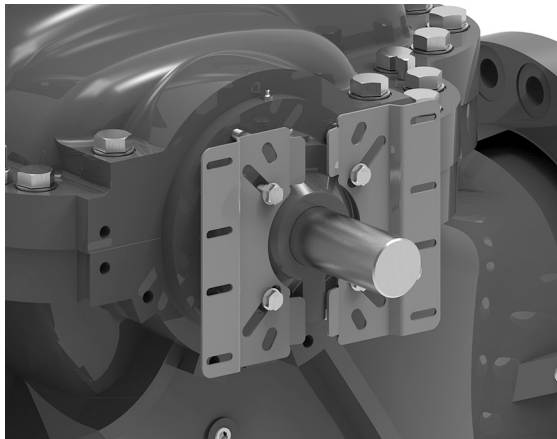

Figure 62: Large bracket mounted to pump bearing gland (without guard assembly)
1. If the two mounting brackets [5] are not already mounted on the inboard bearing gland (see Figure 62: Large bracket mounted to pump bearing gland \(without guard assembly\) on page 62), attach them as follows: